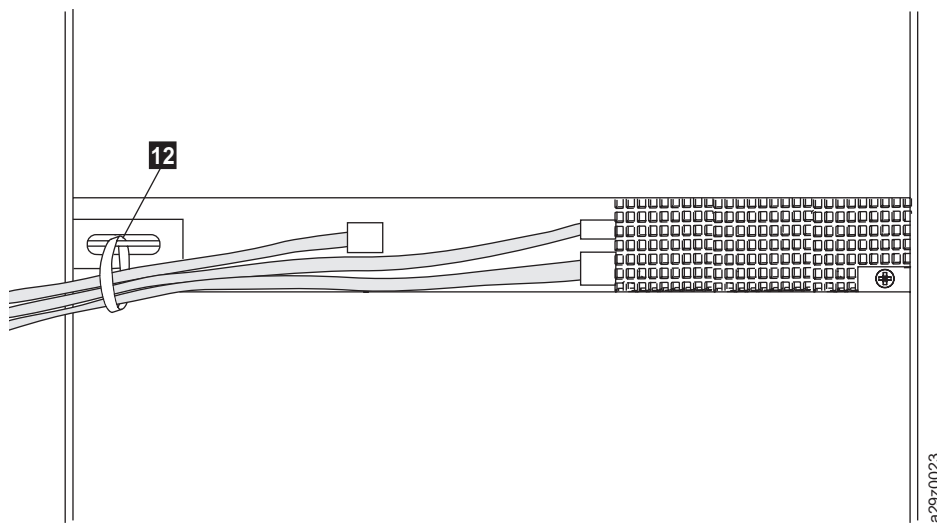

Figure 131. Removing cables at the rear of the library
9. Remove the SAS cable, power cable, and Ethernet cable from the hook-and-loop fastener strap **12** on the rear of the library (Figure 131).